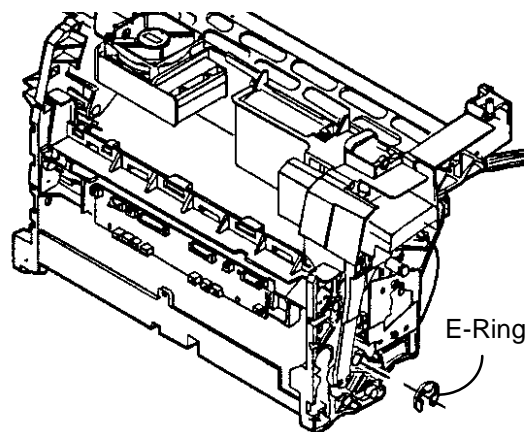

Figure 1. Removing the E-Ring
2. (Figure 1): Remove the large E-Ring securing the Transfer Drum Assembly latch and slide the latch off the pin. This will allow access to the screw securing the Transfer Drum Cleaning Solenoid.